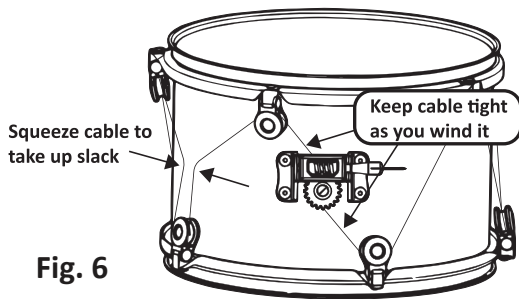

Fig. 6
8. Take up slack in the cable with a free hand and begin winding the post by turning the handle of the tuning knob clockwise (**Fig. 6**). Keep the cable taut while winding.